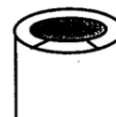

Figure 8. Cut two notches at top of casing to locate beeper tape.
- Cut 2 notches in the casing $\sim \frac{1}{2}$ " apart with a hacksaw (Fig. 8). This area serves as the tape position when beeping the well.